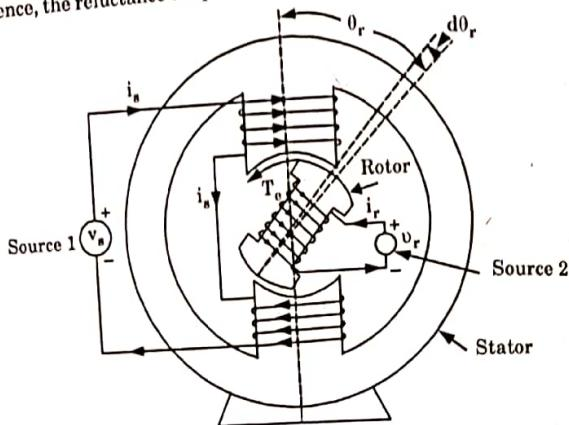

Fig. 1.14.1. Doubly-excited magnetic system.
- In Fig. 1.14.1, if  $i_r = 0$ , then from eq. (1.14.1)